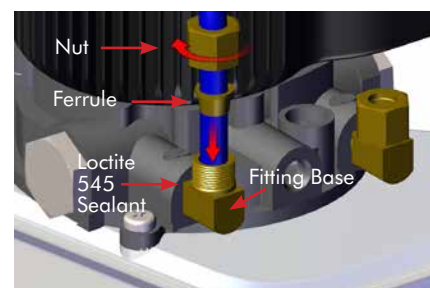

Figure 5
3. Push the blue tubing into the compression fitting labeled UP (blue dust cap), and the black tubing into fitting labeled DN (black dust cap). While holding the blue tubing fully inserted into its respective compression fitting base, begin threading the compression fitting nut onto the base. Repeat this step for the black tubing. **(FIG. 5)**
IMPORTANT: The tubing needs to pass through the ferrule far enough to expose approximately 1/2" of tubing. **(FIG. 5)**